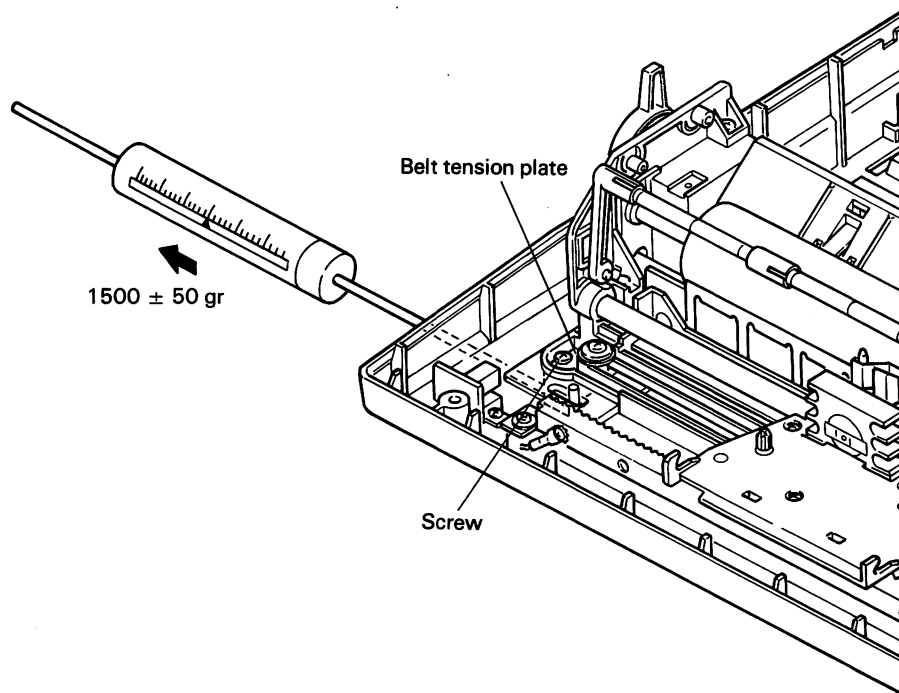

Fig. 4-24. Tension Adjustment of Timing Belt
4.3.3 Timing Belt Tension Adjustment (Fig. 4-24)